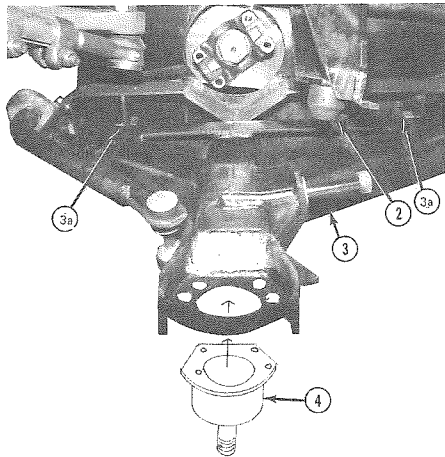

Figure 120 – Lower Ball Joint Installation
**NOTE:** Ball joint spindle to be pointed down, then raised into contact with "A" arm (see figure 120).
a. Use four (4) binding locknut washers with nuts being installed from above.
b. Secure to frame with two (2) "U" clamps, using two (2) binding locknuts and bolts at both sides.